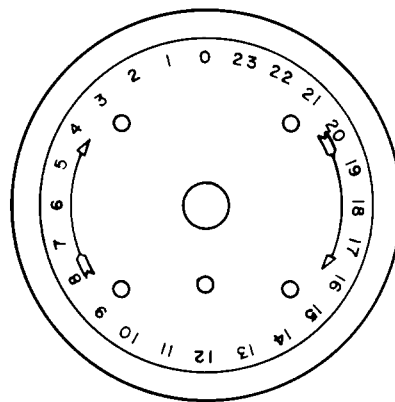

Fig. 8—0-23 Hour Dial (Part of KS-14741 L100 Timer Dial Kit)
3.13 Replacement of the DAY-NIGHT Hour Dial on the L1 and L2 Timers With a 24-Hour Dial: Existing KS-14741 L1 and L2 timers may be converted to L5 and L4 timers, respectively, by replacing the present DAY-NIGHT hour dial with a 24-hour dial. (See Fig. 8.) This new dial is part of the KS-14741 L100 dial kit